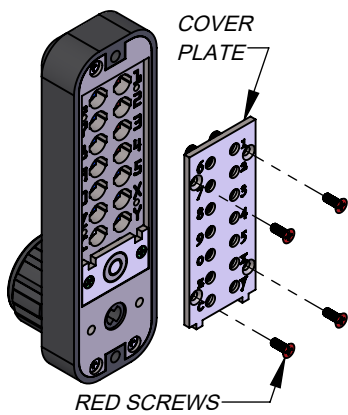

Figure 1
1) Using a #2 screwdriver, remove the four red screws (Figure 1).